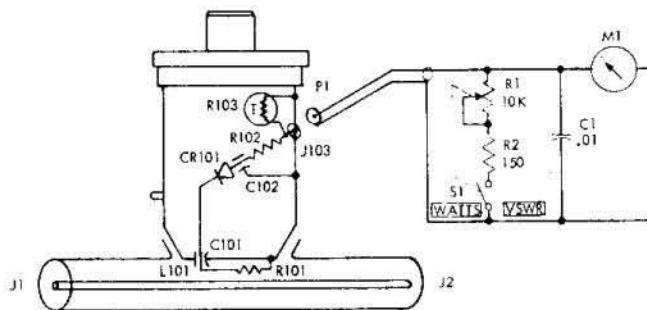

Figure 2. Bi-Directional Power Monitor,
4.01 The 164B is made up of a 50 ohm coaxial primary line section and an indicating meter mounted in a suitable case. The primary line section is so designed that when the element is properly clamped in place there will be a minimum effect on the VSWR of the line. The meter is a sensitive 25 microammeter that reads directly the output of the element to indicate power. When switched to the direct reading VSWR position, a calibrating network is connected across the meter. See Schematic Diagram Figure 2.
- 4.03 The secondary line loop, L101, terminated on one end with R101 and on the other end by the meter rectifier diode, CR101, forms the directional coupler (see Figure 2). C101 and the rf input resistance to the rectifier diode are a frequency compensating circuit that provides a constant coupling factor. C102 is a storage capacitor and R102 the rectifier diode load resistance. R102 also serves as the meter sensitivity resistor. R103 is a temperature compensating thermistor.